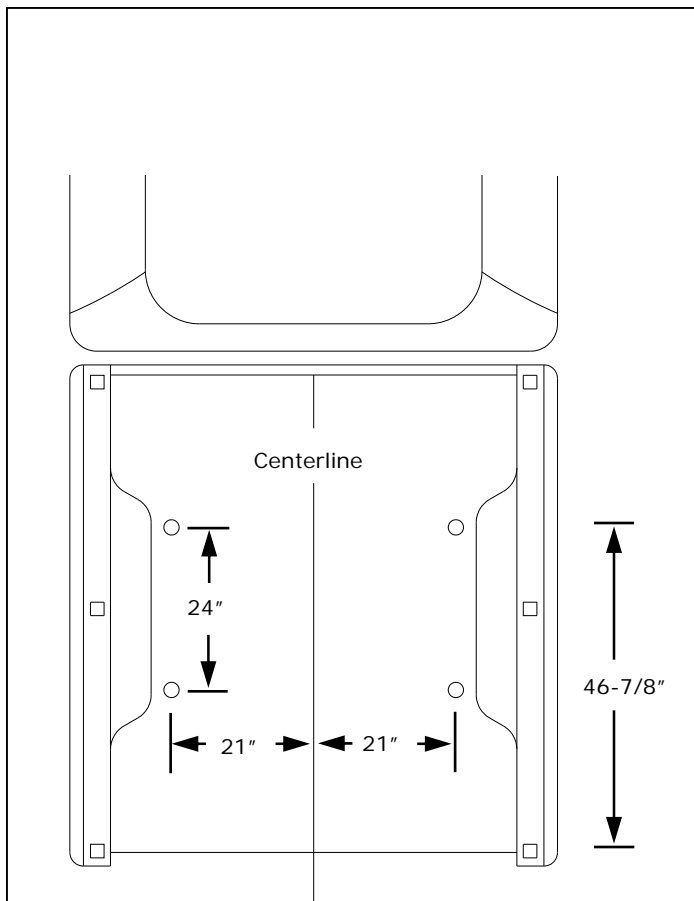

Figure 3
1. See figure 3. Measure and mark from the back of the bed forward $46\text{-}7/8"$. Do this at any point on both sides of the bed.
5. Find the centerline of the bed. Draw a line down the middle of the bed from front to rear. See Figure 3.